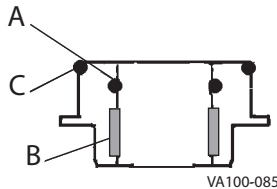

Figure 13 - Lower Bearing Carrier
1. Remove and replace the o-ring (Figure 13, item A) located inside the lower bearing carrier.
2. Check the split bearing (Figure 13, item B) inside the lower bearing carrier by feeling the amount protruding from the lower bearing carrier wall. If the bearing is flush with the wall, replace the bearing.
7. To remove the outer o-ring (Figure 13, item C), slide or cut the o-ring off the lower bearing carrier. Do not nick or scratch the o-ring groove.